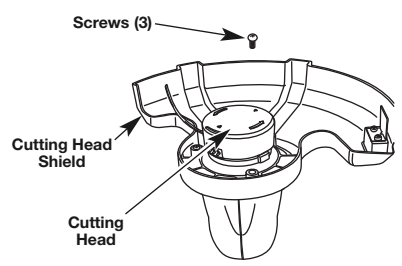

Fig. 6
1. Turn the unit over so that the cutting head is facing up (Fig. 6).
4. Install and tighten the screws with a Phillips screwdriver (Fig. 6).